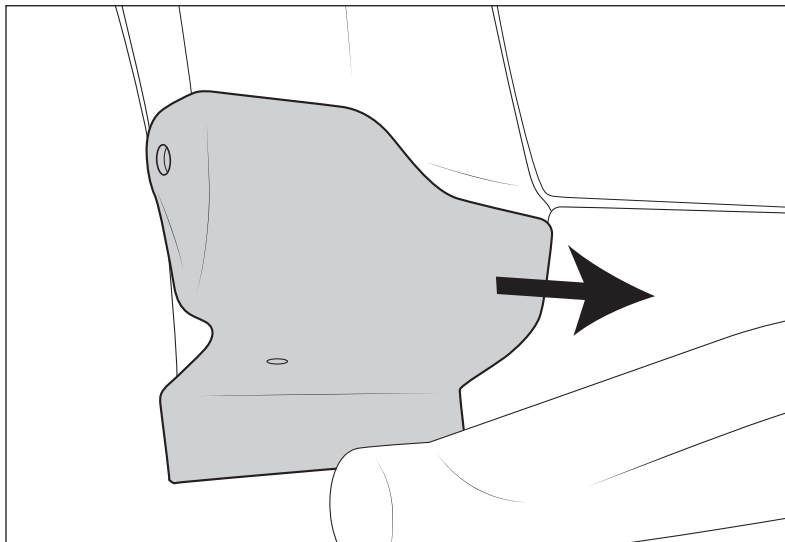

Figure 2
3. Remove spat by sliding toward rear of vehicle (fig.2).